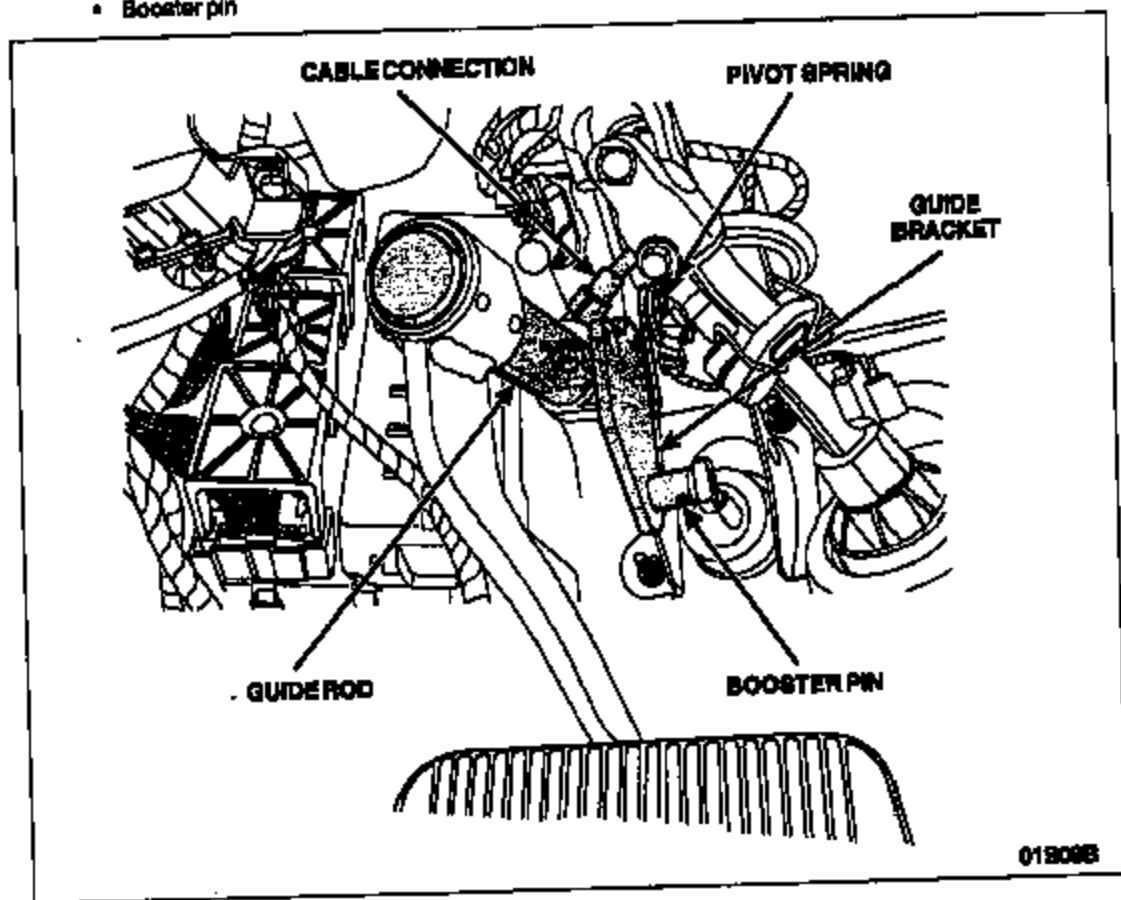

FIGURE 2
5. **NOTE:** Do not use solvents when removing the lubricating grease from the brake pedal assembly. Use a shop cloth to remove any lubricating grease from the outer surfaces of the following brake pedal assembly components. See Figure 2.